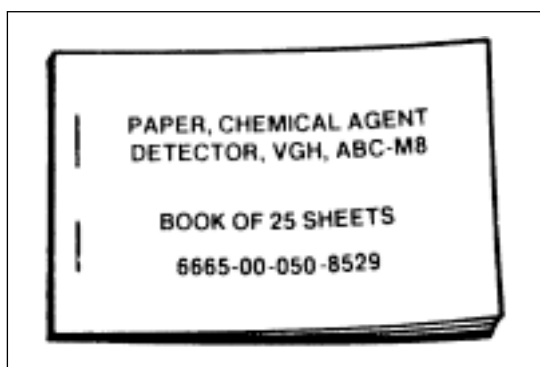

Fig 4-2. M8 paper.
- (1) M8 chemical detector paper (figs 4-2 through 4-4) is a blotter-like paper, impregnated with chemicals used to detect liquid contamination, specifically to indicate the possible presence of liquid blister and nerve agents (these agents are disseminated as a liquid). You should use M8 or M9 on suspected surfaces, such as puddles, small drops, or barely visible droplets.